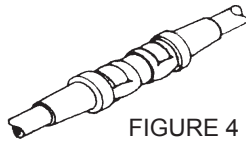

FIGURE 4
- 2.5 SEE FIG. 4 FOR A REPRESENTATION OF A CRIMPED INSULATED SPLICE.